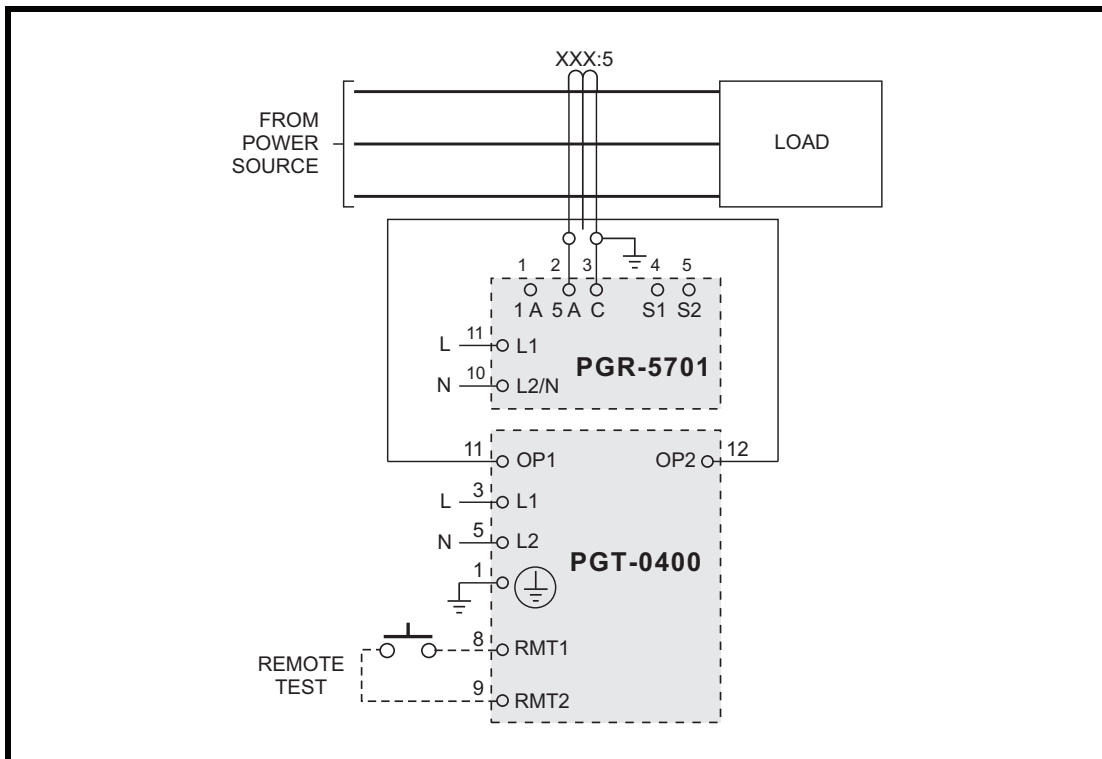

FIGURE 7. Ground-Fault-Test Circuit using PGT-0400.
- d) Verify proper reaction of the circuit-interrupting device in response to a simulated or controlled ground-fault current. To simulate ground-fault current, use CT-primary current injection. Fig. 7 shows a test circuit using a PGT-0400 Ground-Fault-Relay Test Unit. The PGT-0400 has a programmable output of 0.5 to 9.9 A for a duration of 0.1 to 9.9 seconds. Set the test current to 120% of the PGR-5701 setting. Inject the test current through the current-transformer window for at least 2.5 seconds. Verify that the circuit under test has reacted properly. Correct any problems and re-test until the proper reaction is verified.